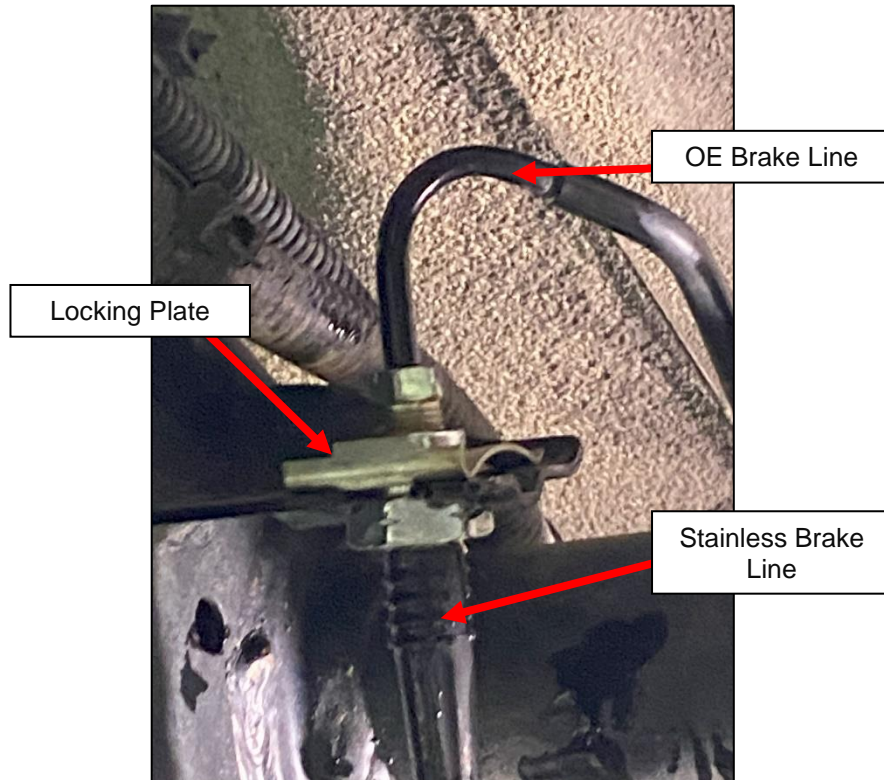

Figure 15
19. Connect the new Z1 Brake Line to the OE Hardline, and secure the Brake Line to the Mounting Point with the Locking Plate removed in *Step 6. Figure 15.*